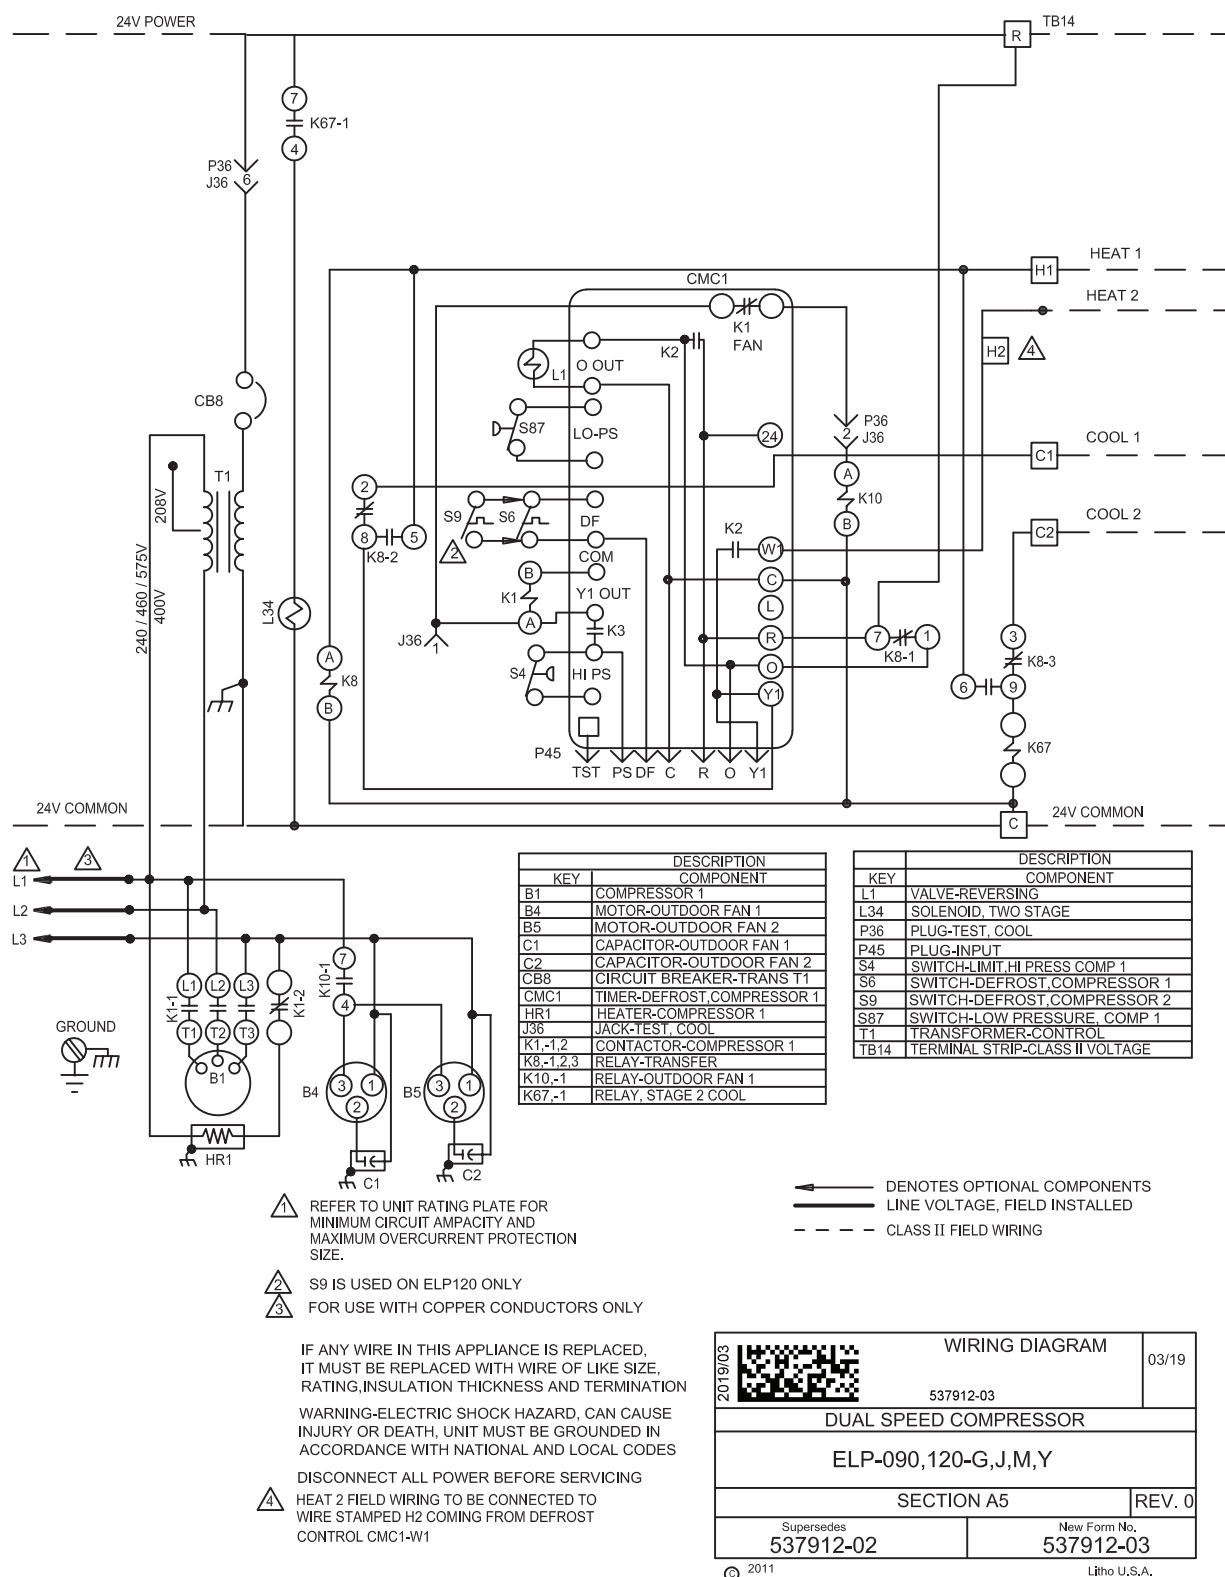

FIGURE 3. Typical Wiring Diagram – ELP090S4S and ELP120S4S (G, J, Y, M Voltages)
- C MAKE CONTROL WIRE CONNECTIONS USING FIELD PROVIDED WIRE NUTS. SEE FIGURE 3 FOR CONNECTION REQUIREMENTS.